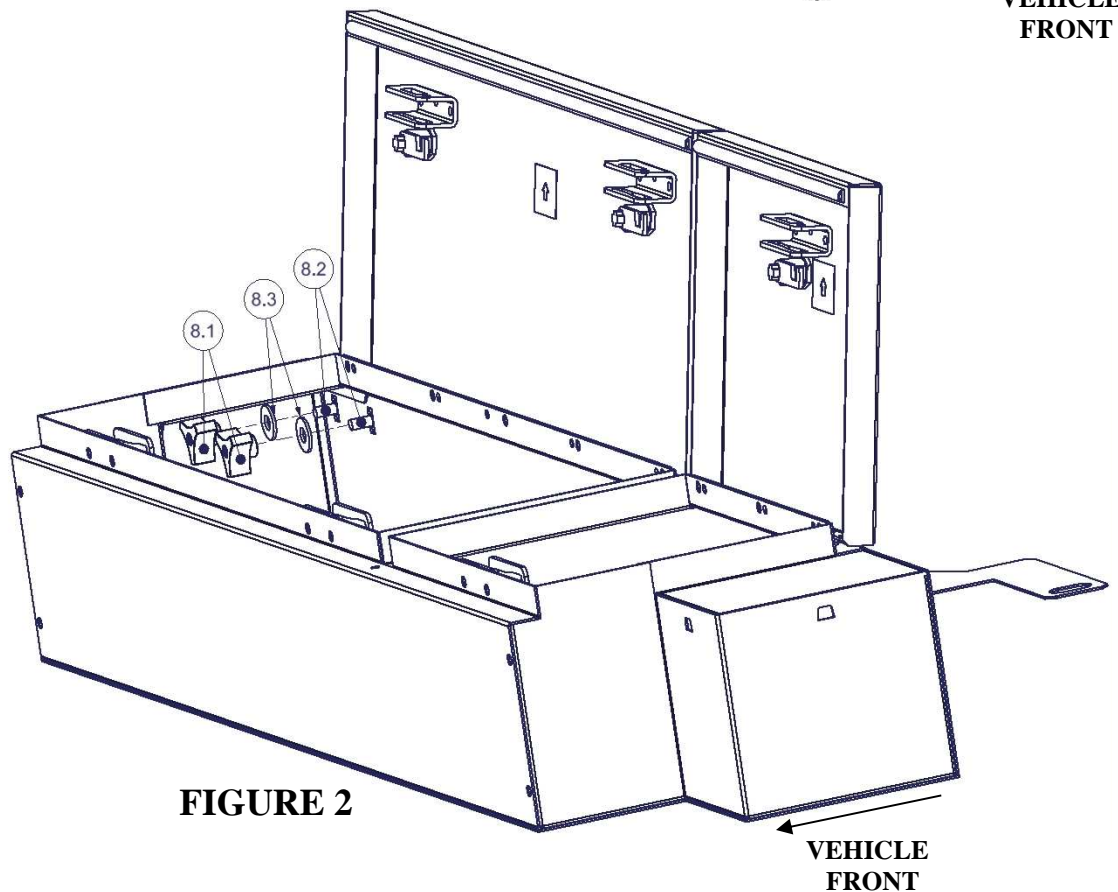

FIGURE 2
13. Install, **but do not tighten** the #8.3 Washers, and #8.1 Wing Knob Nuts. See **Figure 2** (Passenger side shown, driver side similar). **NOTE:** It may be necessary to hold the heads of the #8.2 Carriage bolts to prevent them from falling backward while starting the #8.1 Knob Nuts.